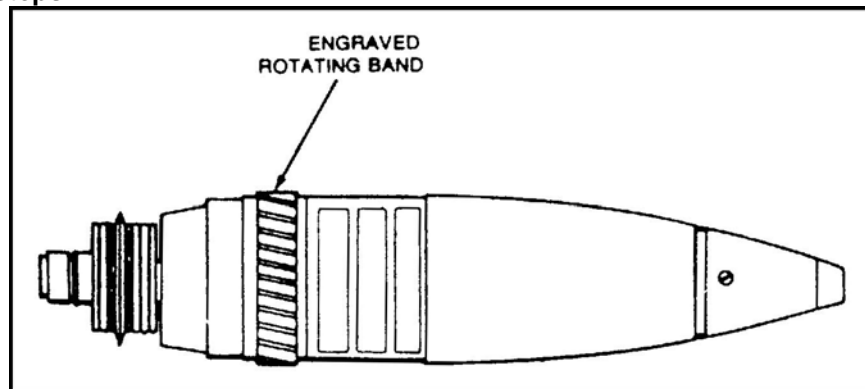

Figure 2. M329A2 HE Round
- e. When loading the 4.2-inch, M329A2 high explosive (HE) round, the engraved rotating band (Figure 2) must engage the lands and grooves of the barrel. To do this, insert the round until the engraved band reaches the lands and grooves. Rotate the round to the right (clockwise) until the engraved band engages the lands and grooves. Continue to turn the round clockwise while lowering the round until the shoulder of the round is in the barrel. This procedure is called indexing the round.